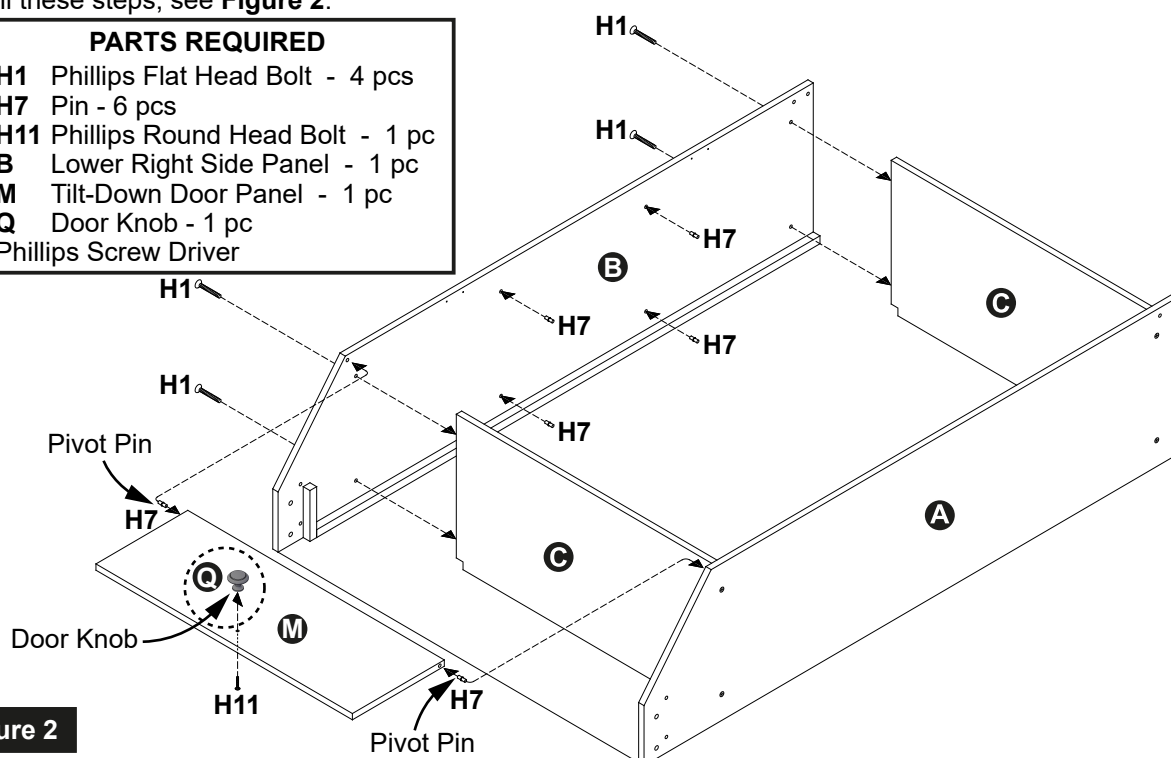

Figure 2
- For all these steps, see **Figure 2**.